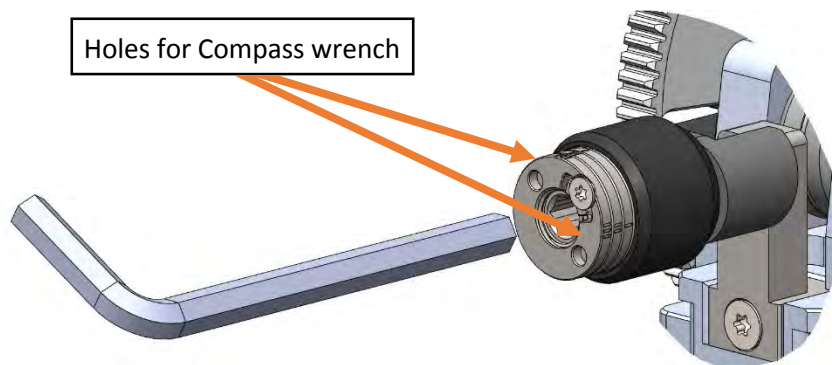

Figure 31
5. To proceed with the adjustment, it is necessary to use the compass wrench and the hexagonal Allen key. Insert the Allen key into the appropriate seat. Then insert the compass wrench into the appropriate holes of the cursor. Holding the Allen key firm, rotate the compass wrench to adjust the height of the cursor to the desired level. Figures 31 and 32;